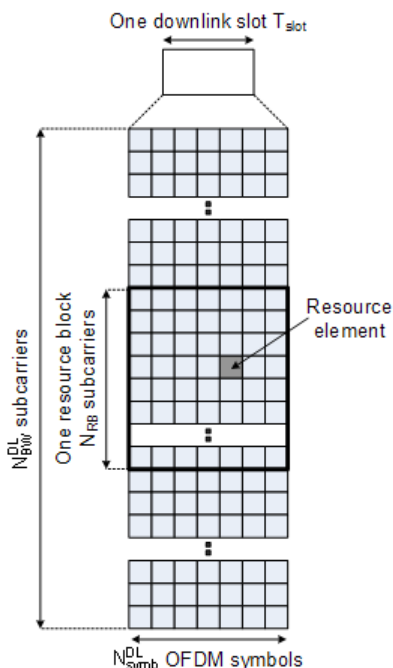

Figure 2-5: Downlink Resource Grid
Figure 2-5 shows the structure of the downlink resource grid for the duration of one downlink slot. The available downlink bandwidth consists of  $N_{BW}^{DL}$  subcarriers with a spacing of  $\Delta f = 15$  kHz. In the case of multi-cell MBMS transmission, a subcarrier spacing of  $\Delta f = 7.5$  kHz is also possible.  $N_{BW}^{DL}$  can vary in order to allow for scalable bandwidth operation up to 20 MHz. Initially, the bandwidths for LTE were explicitly defined within layer 1 specifications. Later on a bandwidth agnostic layer 1 was introduced, with  $N_{BW}^{DL}$  for the different bandwidths to be specified by 3GPP RAN4 to meet performance requirements, e.g. for out-of-band emission requirements and regulatory emission limits.
Data is allocated to the UEs in terms of resource blocks. A physical resource block consists of 12 (24) consecutive subcarriers in the frequency domain for the  $\Delta f=15$  kHz ( $\Delta f=7.5$  kHz) case. In the time domain, a physical resource block consists of DL  $N_{\text{Sym}}^{\text{DL}}$  consecutive OFDM symbols, see Figure 2-5.  $N_{\text{Sym}}^{\text{DL}}$  is equal to the number of OFDM symbols in a slot. The resource block size is the same for all bandwidths, therefore the number of available physical resource blocks depends on the bandwidth. Depending on the required data rate, each UE can be assigned one or more resource blocks in each transmission time interval of 1 ms. The scheduling decision is done in the base station (eNodeB). The user data is carried on the physical downlink shared channel (PDSCH). Downlink control signaling on the physical downlink control channel (PDCCH) is used to convey the scheduling decisions to individual UEs. The PDCCH is located in the first OFDM symbols of a slot.